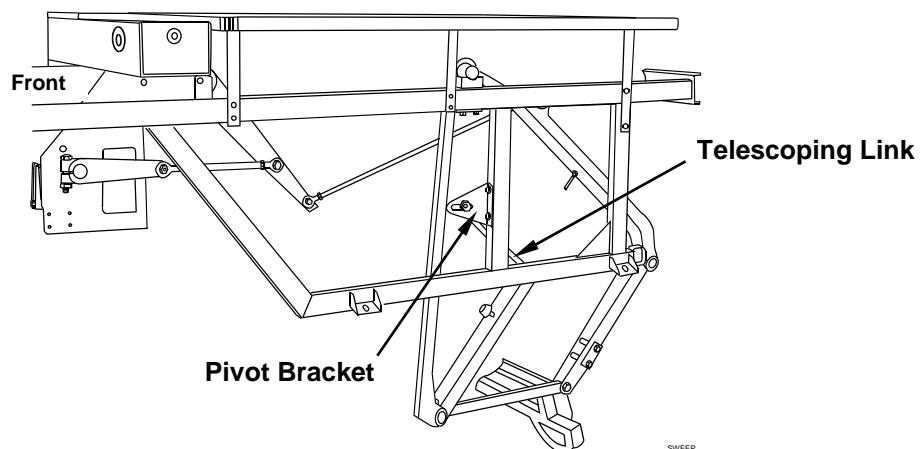

Figure 4.2-27
- a. To increase the clearance between the sweep bar and the pin deck, loosen the nut where the telescoping link connects to the slotted pivot bracket on the vertical frame member (see Figure 4.2-27), and move the end of the telescoping link toward the front of the pinspotter. Retighten the nut.